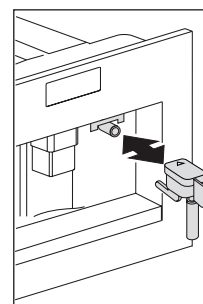

Fig. 13
- ▶ To use the appliance again, insert the hot water spout (Fig. 13) if not already in position, press the OK icon (B9). "HOT WATER PRESS OK" is displayed. Press the OK icon (B9) within a few seconds and deliver water from the spout for about 30 seconds. When delivery stops, the basic modes are displayed again.